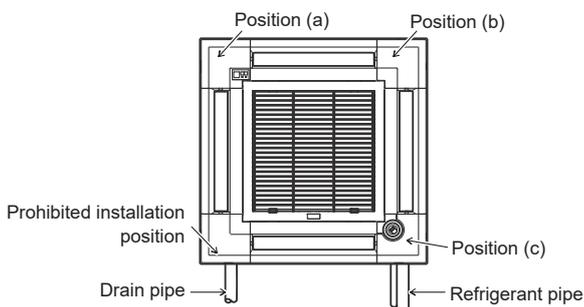

Fig. 7-11
The signal receiver corner panel can not be installed on the drain pipe side for the main unit. (Refer to Fig. 7-11)
- The i-see Sensor corner panel should be fixed onto the grille (1) with screw (3).
- \* If the position of the i-see Sensor was changed from default position (position (c)) to the other position, change the function settings. (Fig. 7-11)
- The i-see Sensor corner panel can not be installed on the drain pipe side for the main unit. (Refer to Fig. 7-11)